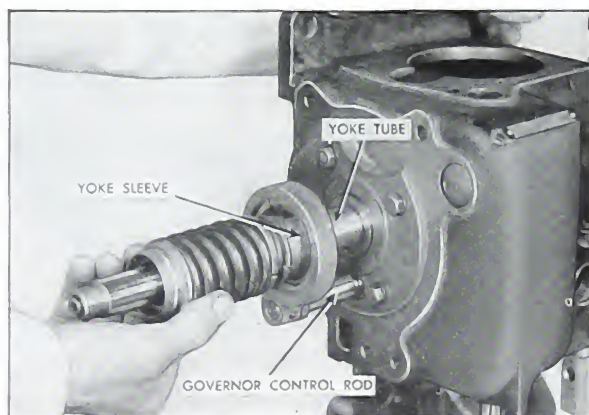

Fig. 5-143. Checking governor sleeves and control rod
5. Lubricate the governor yoke tube and governor control rod bushing with clean oil. Assemble the governor yoke sleeve and assembled governor control rod, collar, maximum speed spring and spring sleeve over the main shaft and yoke tube. The governor yoke sleeve and control rod must be a free sliding fit on the shaft and in the bushing or erratic governor action will result. If the control rod bushing has been line reamed with fixture, ST-109, and rod and collar replaced as an assembly there should be no misalignment. See Fig. 5-143.